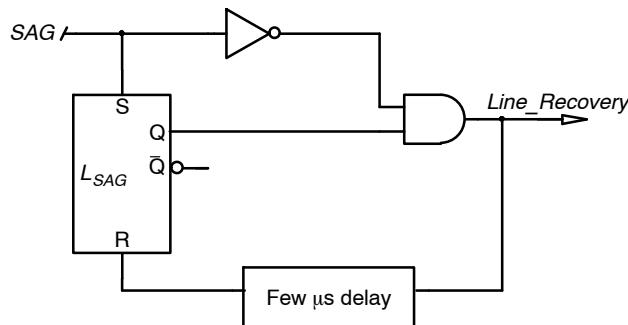

Figure 20. “Line\_Recovery” Signal
- When the soft-stop sequence ends, the PFC stops operating until the  $T_{BUV}$  delay has elapsed (515 ms typically). However, if the BUV protection trips during a line sag condition, the  $T_{BUV}$  delay is bypassed and operation immediately resumes when the line recovers. The wakeup information is provided by signal “*Line\_Recovery*” generated by the line-sag block (see Figure 20). This enables a rapid operation recovery when the line fault is over.
When a line-sag condition is detected, the NCP1618 starts a soft-stop sequence to gradually discharge  $V_{CONTROL}$  down-to-zero and hence, to smoothly stop operation. It also disables the CCM mode to reduce more rapidly the power delivery during the line-sag period. When the line recovers, it is required to restart the operation as soon as possible and in a clean manner. Signal “Line\_Recovery” of Figure 20 provides the wakeup information.